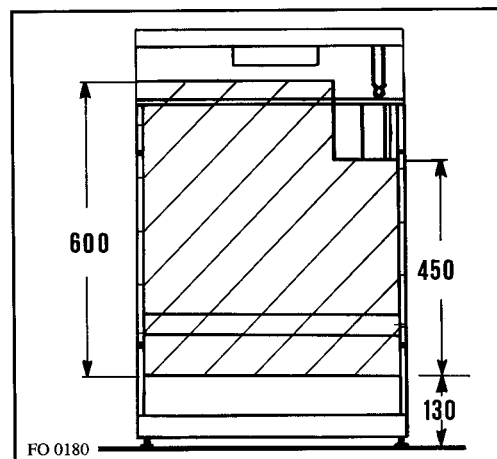

Fig. 3
3. Connecting to Gas (Fig. 3)
The gas bayonet connector must be fitted in the shaded area indicated in Fig. 3. Take into account that it must be possible to pull the cooker forward sufficiently. The hose must not get caught on the stability bracket.